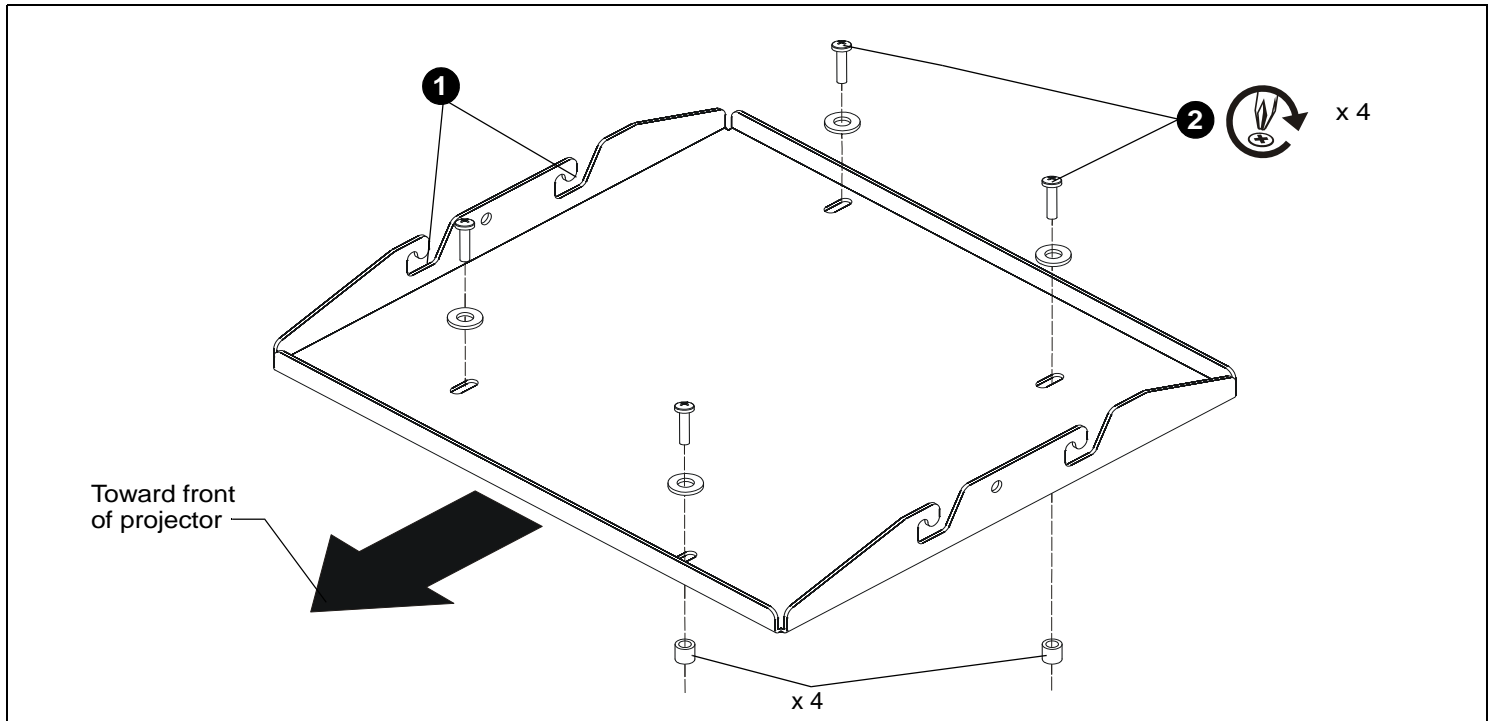

Figure 1:
1. Place custom HB bracket on underside of the projector and line up the four screw holes on the bracket with the four corresponding holes on the projector. Place four spacers in between bracket and projector holes. Ensure that the side hooks open towards back of the projector. (See Figure 1)
2. Attach HB bracket to projector using four M6-1.00 x 25mm Phillips machine screws through washers and spacers into projector. Install each screw partially to make sure all screws are aligned correctly before tightening the screws to the bracket. (See Figure 1)